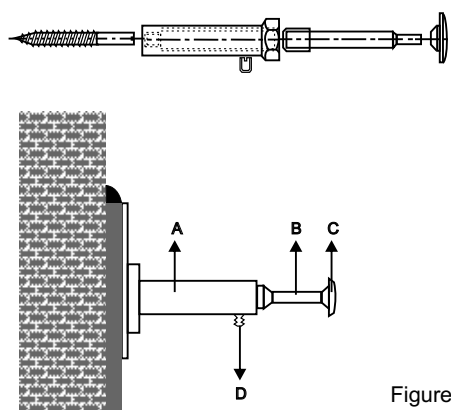

Figure 2a
- 2 Adjustable Mounting Elements** The adjustable mounting elements consist of two interlocked pieces designated by A and B as shown in Figure 2a.